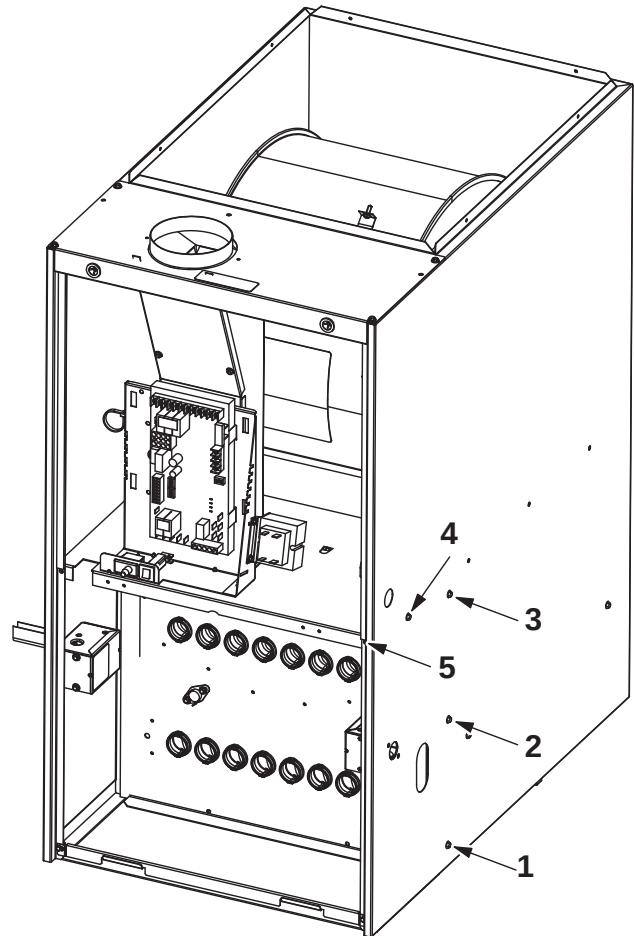

Figure 26.
8. Remove heat exchanger. It may be necessary to spread cabinet side to allow more room. If so, remove five screws from the left side or right side of cabinet. See **Figure 26**.